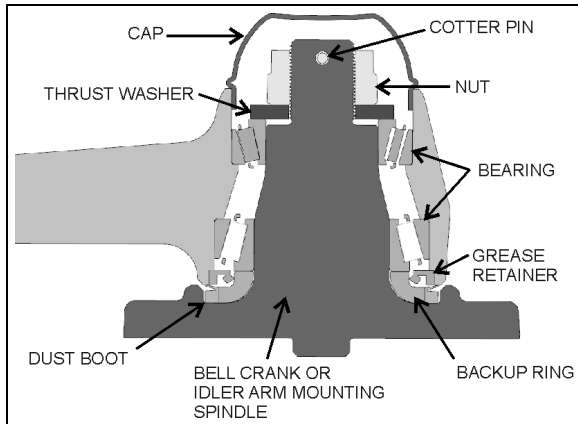

FIGURE 17: BELL CRANK OR IDLER ARM HUB
2. Remove the cap (fig. 17).
3. Remove the cotter pin, nut and thrust washer. Remove bearings, grease retainer, backup ring and the bell crank or idler arm from its mounting spindle (fig. 17).